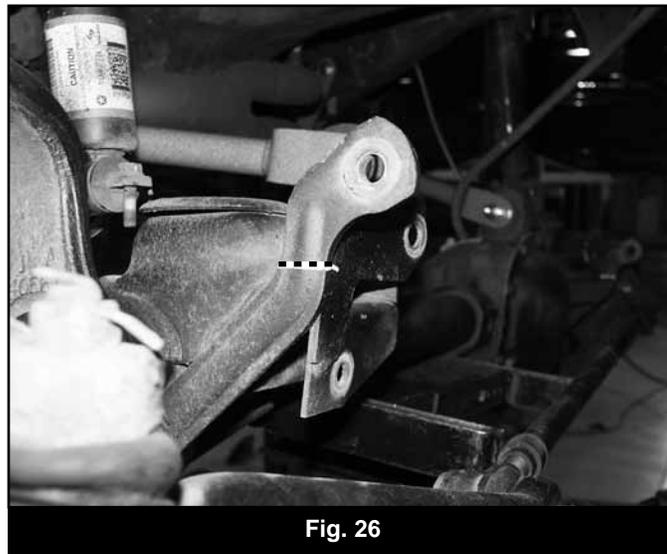

Fig. 26
66. With the driver's side link mount removed, use the cut portion as a template by aligning the hole and the profile of the cut piece with the passenger's side mount. Mark the cut line on the passenger's mount (Fig 26). Note: A 1/2" bolt can be inserted in the mounting holes of the ends to aid in aligning them.